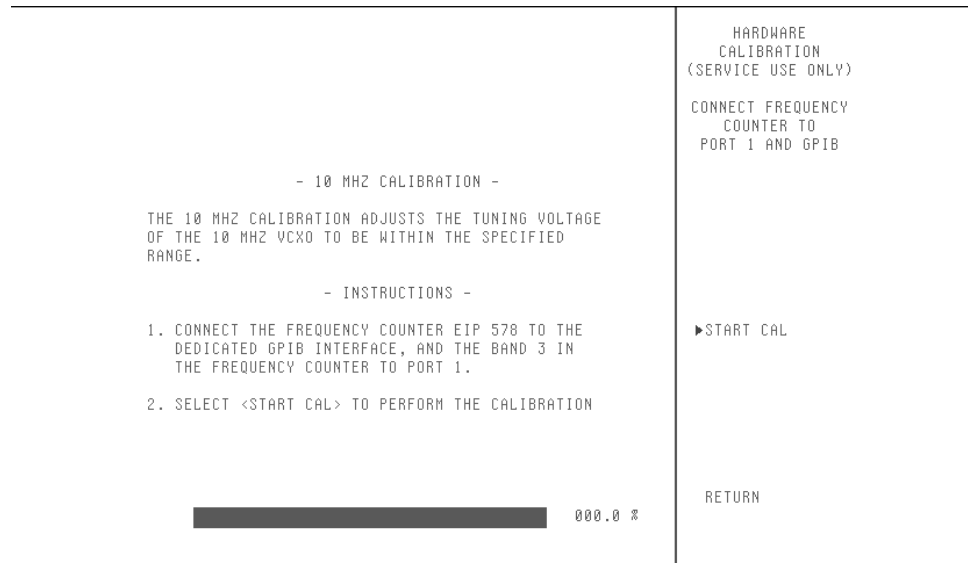

Figure 5-2. Automatic 10 MHz Calibration
5. Press the START CAL soft key to begin the calibration. Refer to Figure 5-2 on the following page.